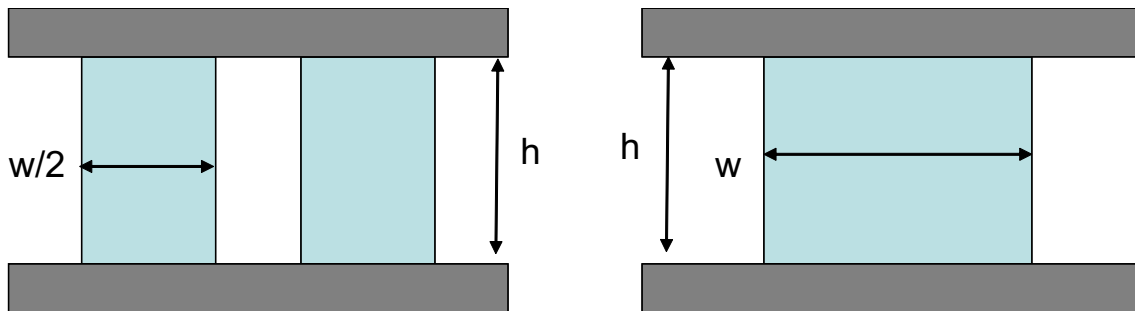

Fig. 1. Dimensions of the blocks for forging
1. Find the expression of the average forging pressure and forging force for plane strain forging of blocks having initial height  $h$  to a final height of  $h/2$ . There are two cases shown in the Fig.1. Assume all sliding conditions and coefficient of friction as  $\mu$ . Also check the results with approximate average pressure formula for pure sliding. Which one is higher? Please provide a physical explanation.